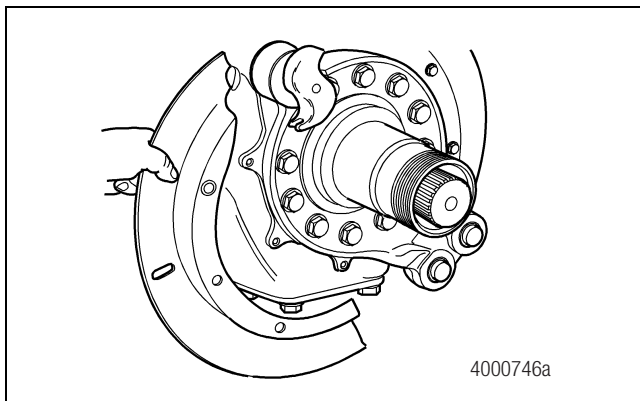

Figure 4.19
2. Remove the dust shield from the brake spider. Figure 4.19.